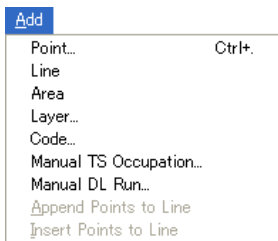

Figure 5-88. Adding a TS Occupation Manually
- Click **Add ▶ Manual TS Occupation** (Figure 5-88).